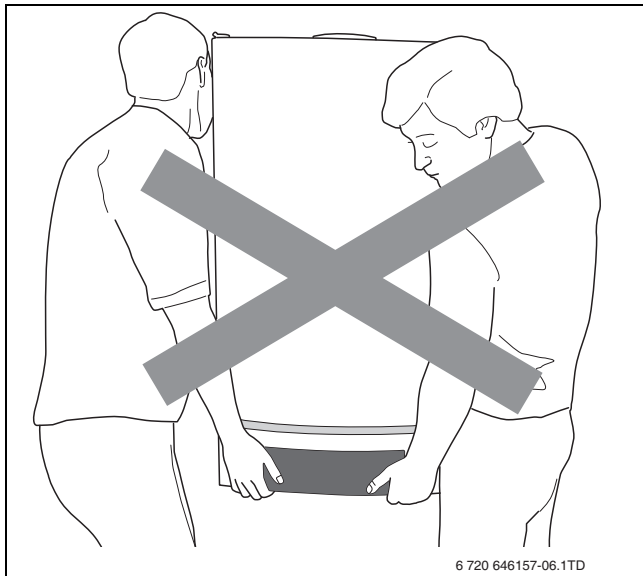

Fig. 7 Incorrect way of lifting and carrying the boiler
- ▶ Do not hold the boiler by the door covering the control panel (→ fig. 7).